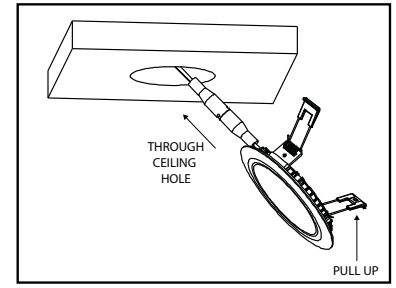

Figure 5 / Figura 5 / Schéma 5
5. Pull the spring clip on the fixture up and through the ceiling hole and place module in the hole making sure the spring clips are holding securely. (Figure 5)